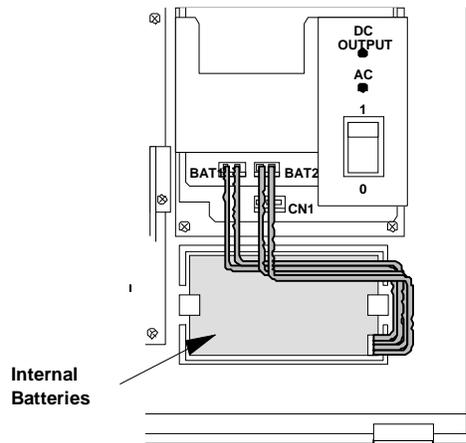

FIGURE 33. INTERNAL BACKUP BATTERY CONNECTION.
3. Connect the batteries to the connectors marked BAT1 and BAT2 on the VS-PWSU power supplies as illustrated in Figure 33 with cable provided. The cable is keyed and can only fit in one direction.